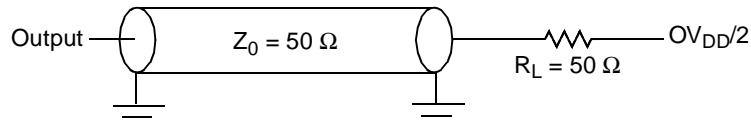

Figure 14. Local Bus C Test Load
Figure 14 provides the AC test load for the local bus.
1. All outputs are measured from the midpoint voltage of the falling/rising edge of t_{TCLK} to the midpoint of the signal in question. The output timings are measured at the pins. All output timings assume a purely resistive 50- Ω load (see Figure 14). Time-of-flight delays must be added for trace lengths, vias, and connectors in the system.
2. The symbols used for timing specifications follow the pattern of $t_{(\text{first two letters of functional block})(\text{signal})(\text{state})(\text{reference})(\text{state})}$ for inputs and $t_{(\text{first two letters of functional block})(\text{reference})(\text{state})(\text{signal})(\text{state})}$ for outputs. For example, t_{JTDVKH} symbolizes JTAG device timing (JT) with respect to the time data input signals (D) reaching the valid state (V) relative to the t_{JTG} clock reference (K) going to the high (H) state or setup time. Also, t_{JDXKH} symbolizes JTAG timing (JT) with respect to the time data input signals (D) went invalid (X) relative to the t_{JTG} clock reference (K) going to the high (H) state. Note that, in general, the clock reference symbol representation is based on three letters representing the clock of a particular functional. For rise and fall times, the latter convention is used with the appropriate letter: R (rise) or F (fall).